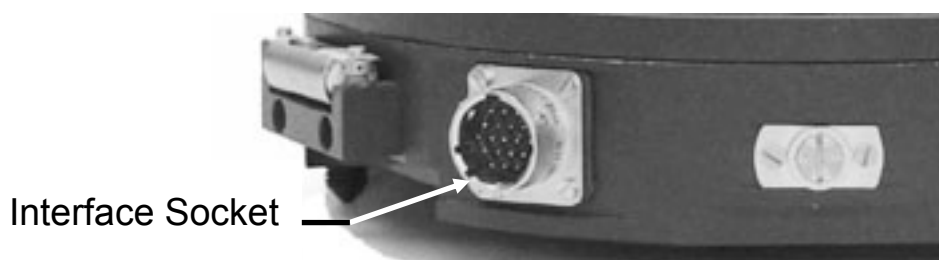

Figure 6 Location of the Interface Socket
**NOTE:** The location of the Interface Socket is shown as Figure 6.